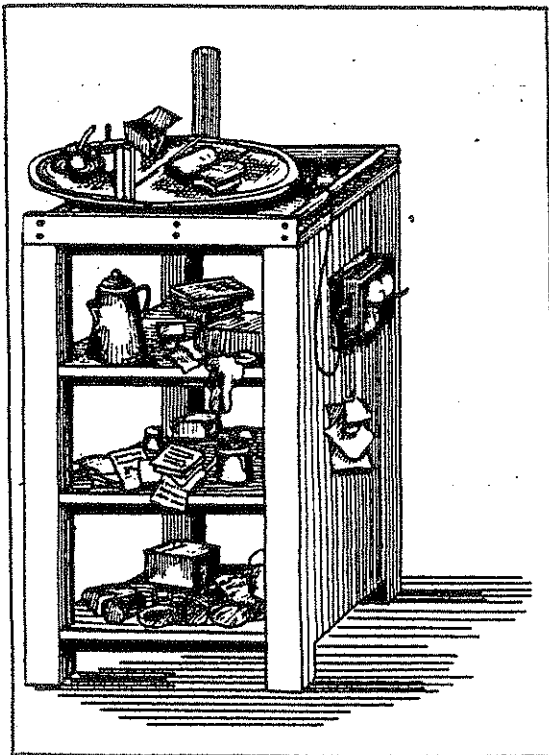

Figure 3. --Improper use.
2. Care of Firefinder (Figures 3 and 4)